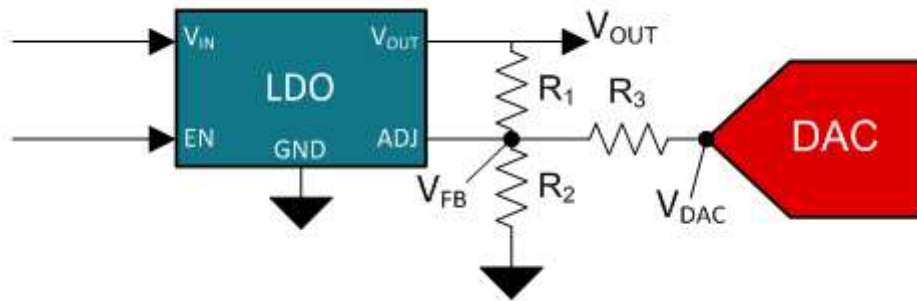

Figure 3: Adjustable LDO feedback with a precision DAC
However, this is a static solution. If your circuit encounters ohmic losses on a high-current dynamic load or if you're implementing dynamic voltage scaling, for instance, your circuit might require "reprogramming" of the output voltage from the regulator. Traditionally, this isn't possible without physically replacing the resistors. Adding a DAC and resistor to the circuit, however, as shown in Figure 3, will allow you to raise and lower the output voltage of the regulator on the fly by programming the DAC voltage.
Consider the currents going in and out of the V_{FB} node shown in Figure 3, which is connected to the ADJ pin of the LDO. Almost no current flows in or out the device through the ADJ pin (on the order of $0.01\mu A$). As I previously mentioned, the output voltage of the LDO is always produced such that the voltage at the ADJ pin – and therefore the V_{FB} node – is equal to the LDO's internal reference voltage. Thus, the current through R_2 is constant. It follows that any sourcing or sinking of current by the DAC through R_3 is reflected as a proportional voltage increase or decrease at V_{OUT} to compensate for the
- changing current that must flow through R1. This helps write the relationship between the two remaining unknowns, R₁ and R₃, based on Figure 3 and expressed as Equation 1:
Equation 1 shows that the total amount of current change through R3 due to the DAC output voltage has to be equal to current change through R1 by varying the output voltage of the regulator. Equation 2 is the sum of the currents in and out of the V_{FB} node based on Figure 3:
Here, V_{DAC} is the output voltage of the DAC reflected in Figure 3. To have V_{NOM} as the regulator output when the DAC voltage is at V_{DACN}, you can substitute these design parameters from Table 1 in for V_{OUT} and V_{DAC}, respectively. The V_{FB} node will always be regulated to the voltage of the LDO internal reference, so you can substitute V_{REF} for V_{FB} to get Equation 3: